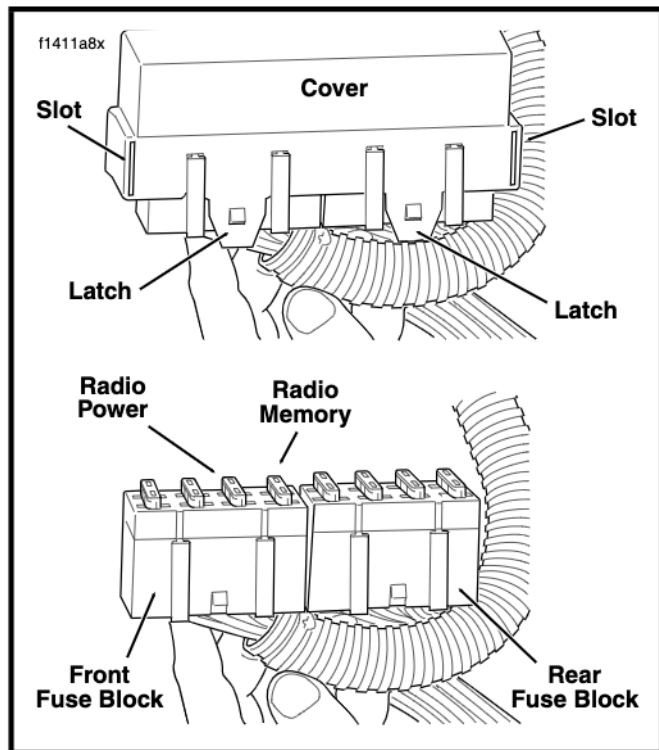

Figure 50. Fuse Blocks
3. See Figure 50. Locate the two radio fuses in the front